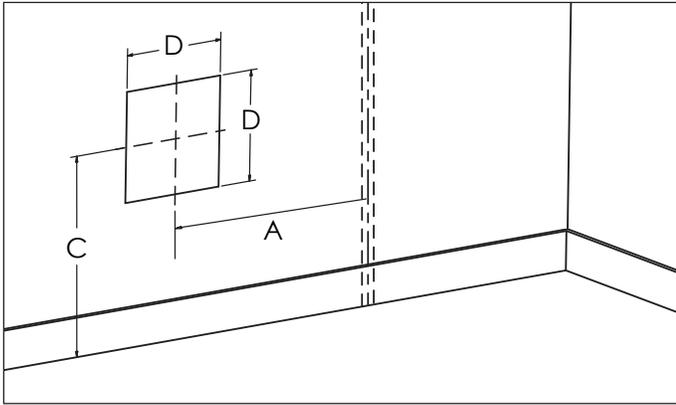

Figure 17
- Taking into account the minimum clearances mentioned in table 2, locate the closest wall stud (which will serve to hold the appliance) and mark the square hole center at a distance "A", (if the wall stud is at the right), or "B", (if the stud is at the left)(see table 2 and Figures 17 and 18). Note: Use the heat shield to help hold the bracket in place when marking the square hole locations.